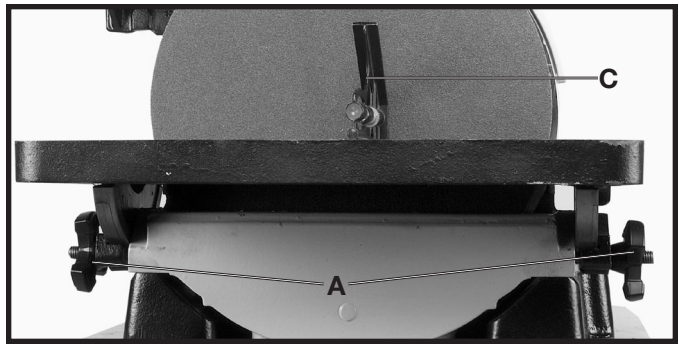

Fig. 23
1. Place an accurate square (C) Fig. 23, on the table with one end of the square against the disc.
2. Loosen the table locking knobs (A) Fig. 23, which are located on each end of the table and move the table until it is at 90 degrees to the disc. Then tighten the table locking knobs (A).